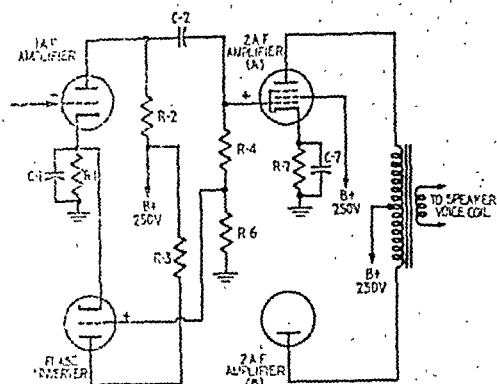

FIG. 19-22. Applying a portion of the positive output signal of the first a-f amplifier to the phase-inverter grid.
To obtain an equal but opposite voltage on the control grid of the other second a-f (B) tube, a portion of the positive output voltage pulse of the first a-f tube is tapped off from the grid leak of the second a-f (A) tube. Then this positive voltage is placed on the grid of a phase-inverter tube. Figure 19-22 shows the circuit described above. The self-bias for the first a-f tube, made up of R-4 and R-6, is common to the inverter tube.